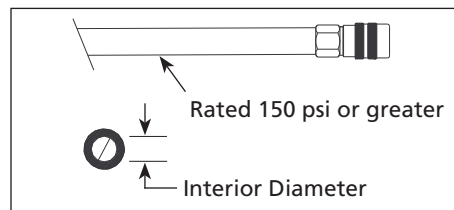

Figure 14 - Air Hose Requirements
**AIR SUPPLY HOSE:** ALWAYS use air supply hoses with a minimum working pressure rating equal to or greater than the pressure from the power source, or 150 psi, whichever is greater. Use 1/4 inch air hose for runs up to 50 feet. Use 3/8 inch air hoses for 50 ft. run or longer (see Figure 14 and Chart 3).